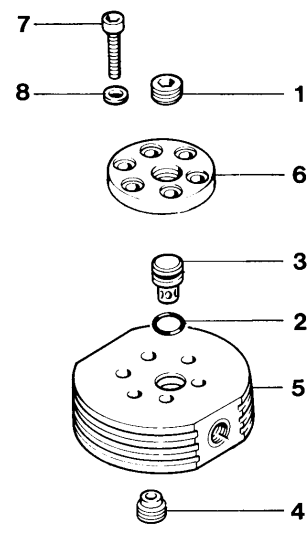
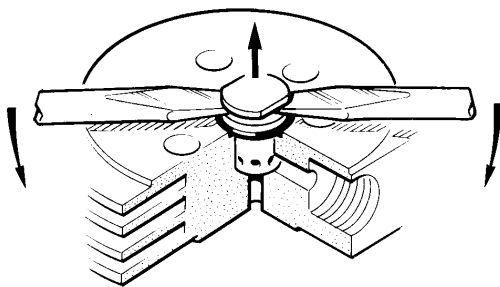

Fig. 38 Valve head 3rd stage
Fig. 39 Removal of 3rd stage pressure valve
- Remove two captive nuts (1) and spring-washers (2).
- Remove plate (3).
- Remove valves (4) and (7) using two screw-drivers as shown in Fig. 39.
- Assemble in reverse sequence. Position spring-washers with curved side facing upwards. Fasten nuts so that plate (3) is parallel to the valve head. Torque with 10 Nm (1 kpm).
On this valve head, the valves are arranged on the upper and lower side due to the small diameter of the 3rd stage, see Fig. 38.
Remove of 3rd stage pressure valve (3) according to Fig. 38.
- Unwind torque stud (1) a couple of turns.
- Remove allen screws (7), take off valve head cover (6).
- Put two screwdrivers into the groove of pressure valve body (Fig. 39). If necessary turn valve loose at first using a 13 mm spanner on the flat surfaces.
- Lift out pressure valve (3) together with O-ring (2).